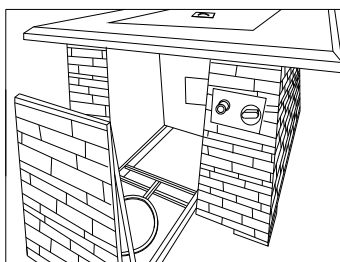

Fig 4
- 1- Open the door, put the chain and control valve outside. See Fig 4